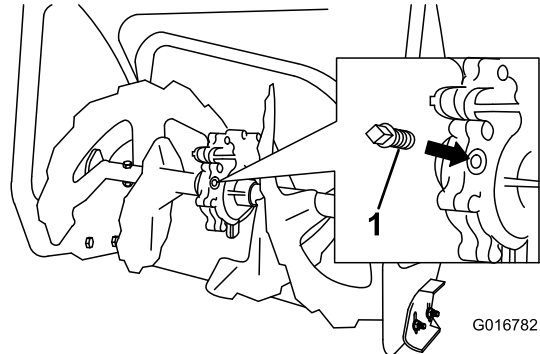

Figure 45
2. Clean the area around the pipe plug (Figure 45).